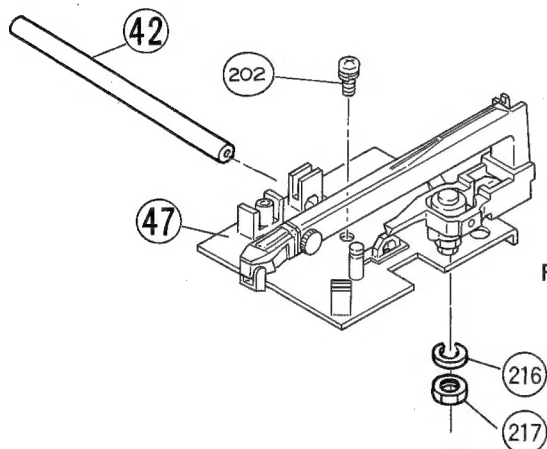

Figure 8
4. After removing the Screw (202) described in Fig. 8, remove the Bracket K (47) by lifting the left end of the Guide (42).
3. Remove the Hexagon Nut (217) and Spring Washer (216) to remove the tonearm assy (Fig. 8).